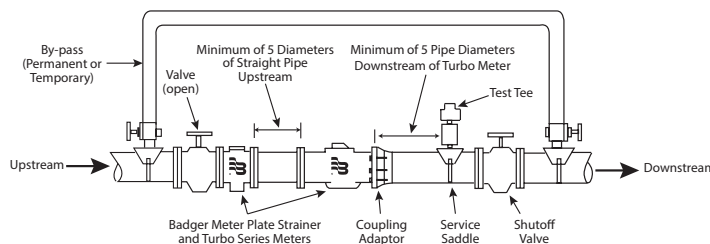

Figure 1: Recommended meter installation
Procedures for installing Recordall Turbo Series meters are essentially the same for all meter sizes. Any special instructions required for the installation or connection of accessory devices such as AMR/AMI technologies or strainers is provided in the literature for those devices. *Figure 1* shows a recommended meter installation.
- When installing the meter with a separate plate strainer or integral strainer, a minimum of 5 pipe diameters of straight, unobstructed pipe is recommended upstream of the meter. For optimum protection and accuracy, this straight pipe spool piece should be installed between the separate strainer and meter (see *Figure 1*). A minimum of 10 pipe diameters (minimum of 25 pipe diameters for smallest size) of straight unobstructed pipe is recommended upstream of a meter installed without a plate strainer. The deletion of a strainer, however, is not recommended. This allows for dampening of velocity profile distortions caused by elbows, pumps and dirt traps upstream of the meter. Where spiral flows are created by three dimensional elbows or rotary pumps, additional distance to dampen the effect is beneficial. If a basket or Y-type strainer is used, place it 5 to 10 pipe diameters upstream of the meter to dampen velocity profile distortions created by this design.